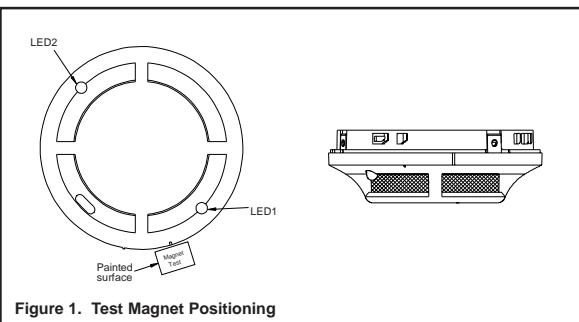

Figure 1. Test Magnet Positioning
1. Test the sensor by positioning the test magnet (Model M02-04-optional) against the sensor body approximately 2cm from LED1 in the direction of the metering socket as shown in Figure 1.